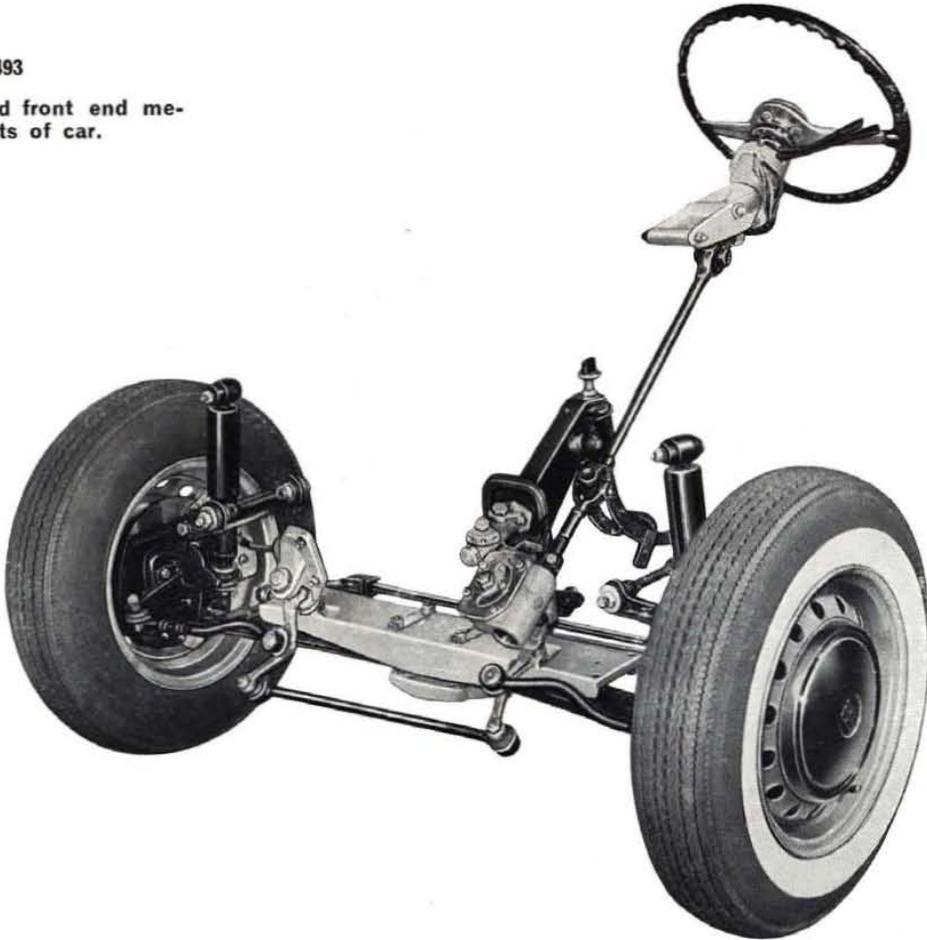

**Fig. 492 - Removing steering column.**
- remove the lower snap ring and working on top end of shaft have the shaft and the first bearing slide out (fig. 492); the other bearing can be easily withdrawn from the bracket without use of tools;